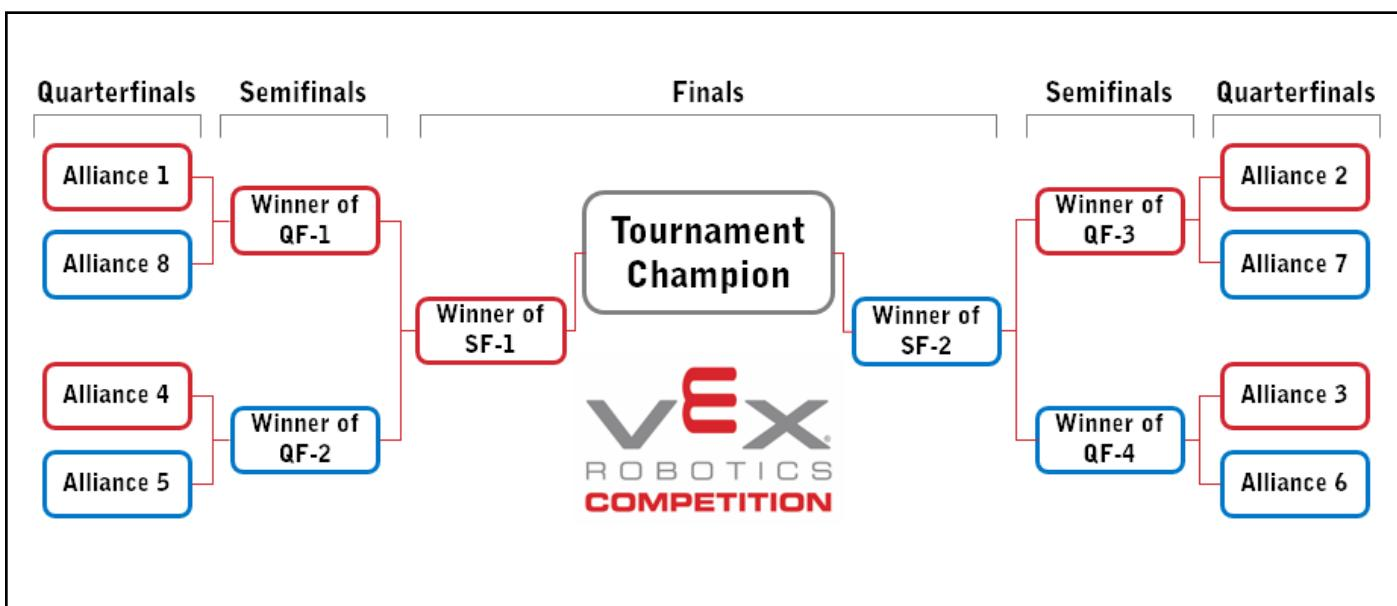

Figure T19-2: A 8-Alliance bracket
Thus, an eight (8) Alliance bracket would run as shown in Figure T19-2: